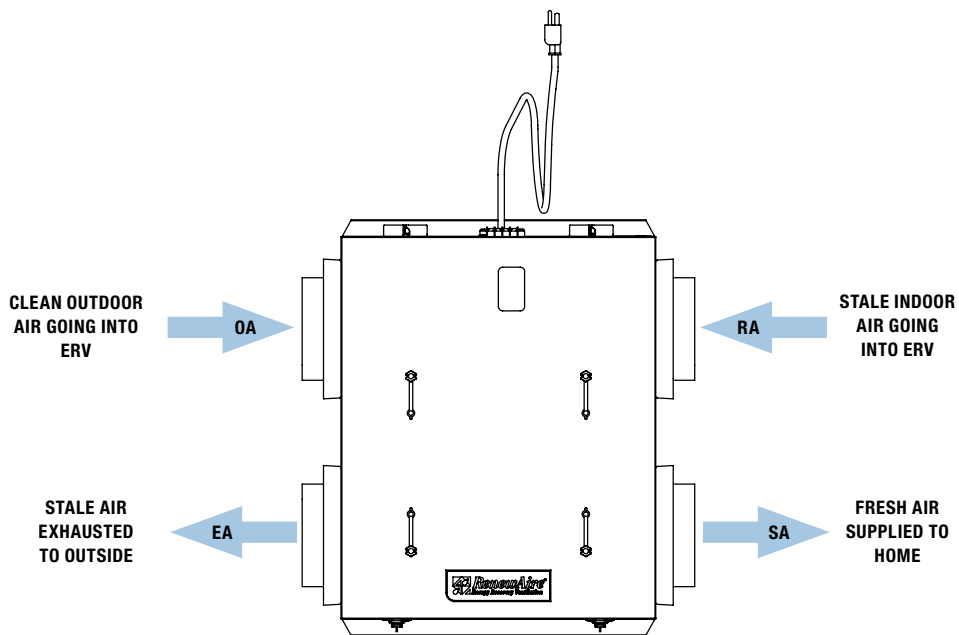

FIGURE 5.0.0 EV PREMIUM AIRFLOW PATTERN
**NOTE:** Airstreams may be swapped during installation. This is an acceptable installation that does not effect unit performance or warranty. If airstreams are swapped, the OA and RA arrows will switch positions in Figure 5.0.0, as well as the EA and SA arrows. The installer should note if airstreams are swapped.